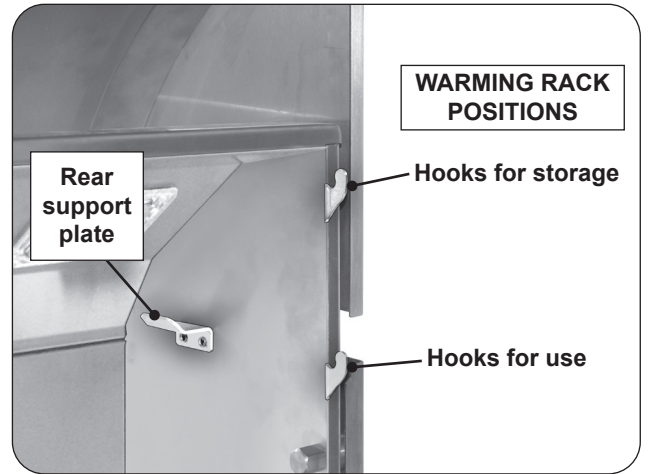
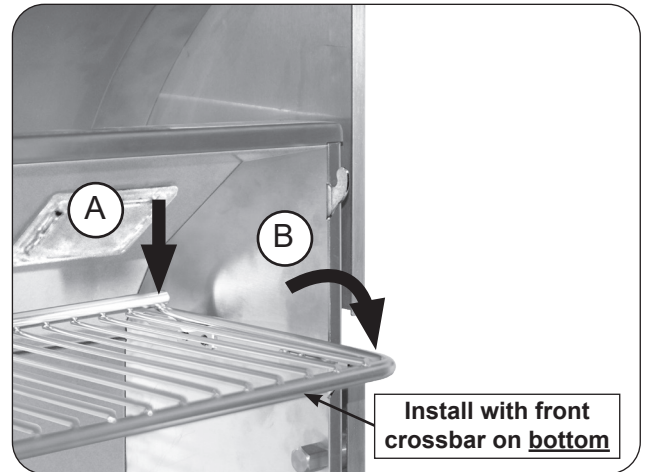
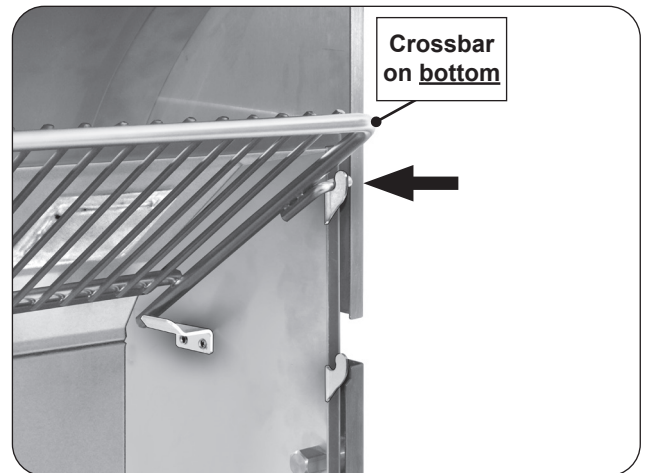

Fig. 25-1 Warming rack hooks
Fig. 25-2 Place warming rack for use
Fig. 25-3 Place warming rack in storage position
1. Locate the warming rack hooks and rear supports found on the upper portion of the grill oven (see Fig. 25-1).
2. With the warming rack oriented as shown, carefully rest the rear of the rack onto the rear support plates (Fig. 25-2, A), then rest the warming rack arms onto the two lower hooks for use (Fig. 25-2, B). Use the top hooks for storage (see Fig. 25-1 and Fig. 25-3).